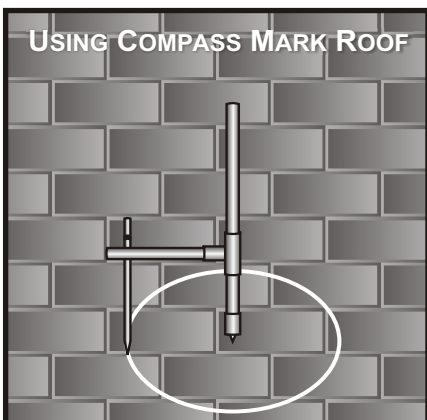

Figure 5
**6.** Locate the roof hole center point on the roof. Using the compass, draw a circle **(Fig 5)** the right size for your unit (8" compass hole for the 5 1/2", 13" compass hole for 8" unit or 17" compass hole for 13" unit). Hold the compass vertical. The circle will be oval on a pitched roof. Cut with your reciprocal saw **(Fig. 6)** through the roofing and roof boards. It may be necessary to drill a pilot hole to start your cut. Take care not to let the cutout drop through to the ceiling. It can damage your ceiling. You will need to cut the shingles about 1" more than the hole, this should give you room to insert the screws and rubber washers in the holes in the dome. (It may be necessary to remove some of the shingles on the top side of your hole). Now slide the dome under the shingles, taking care as not to damage the black paper under the shingles **(Fig. 7)**.